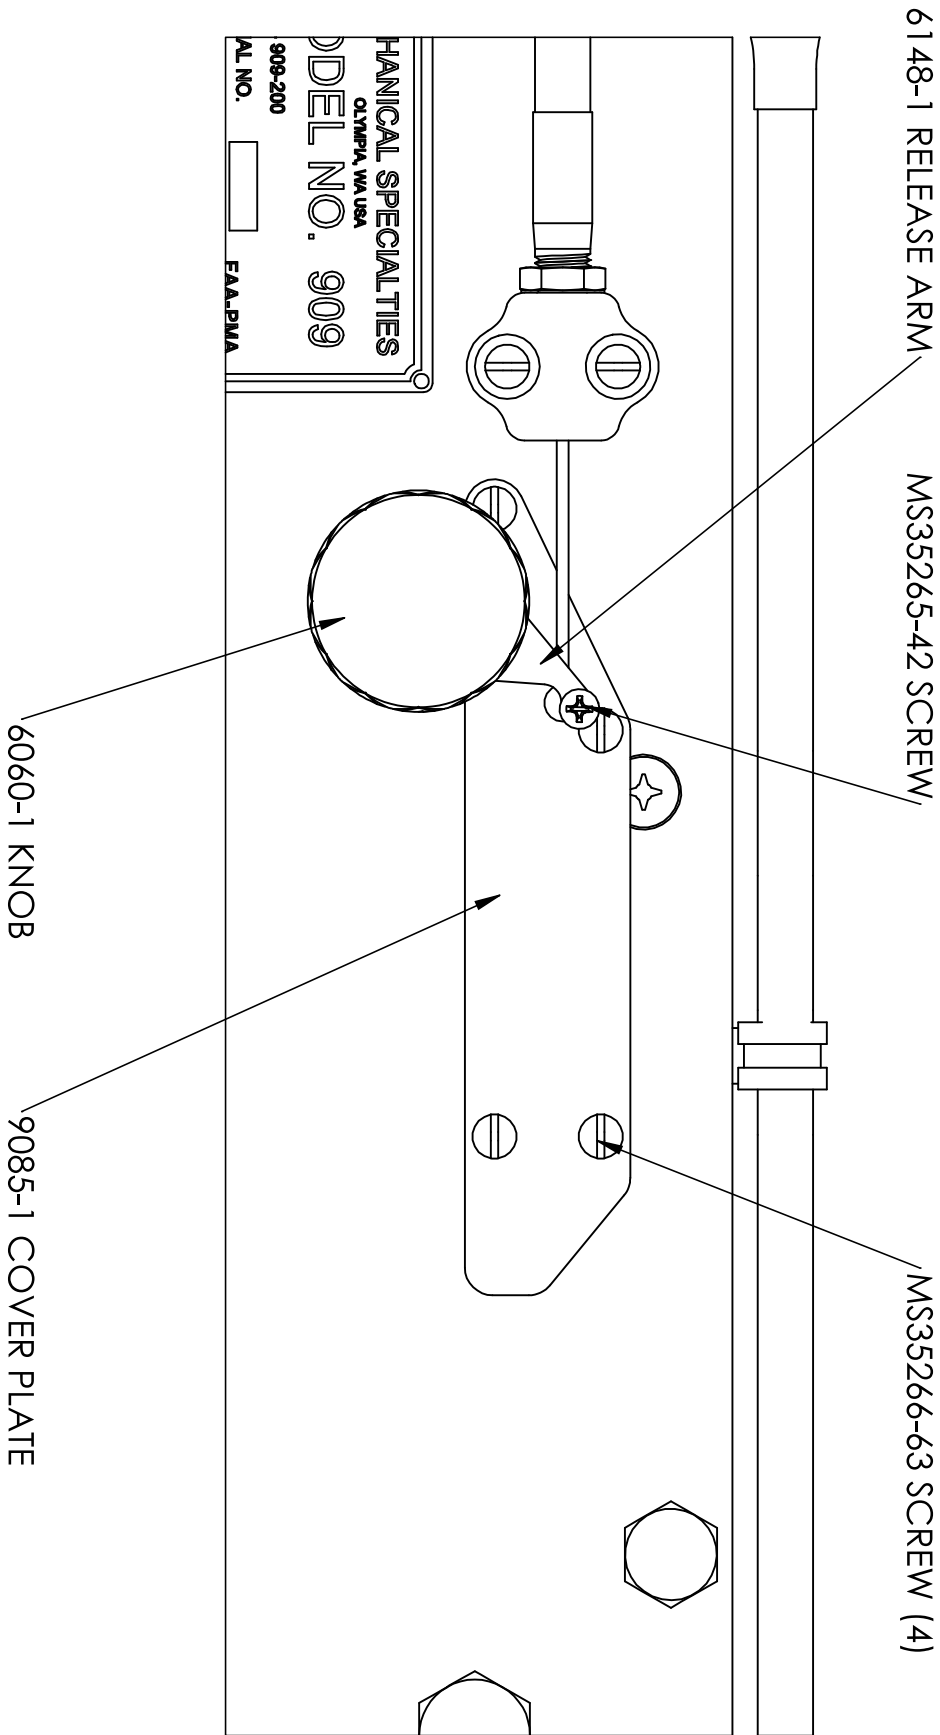

FIG.1
12. INSTALL 909-040-148-025 RELEASE ARM (AS SHOWN IN FIG. 1) USING SUPPLIED ROLL PIN. INSTALL MS35265-42 SCREW SECURING CABLE IN RELEASE ARM, REINSTALL MANUAL RELEASE KNOB.